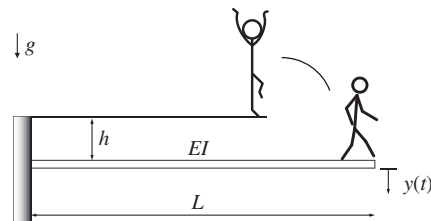

Figure P10.31 A diver impacting a diving board.
- 10-31.** At time $t = 0$ s, a diver of mass m jumping from a platform of height h (in meters) impacts a diving board with an initial velocity $v_o = \sqrt{2gh}$, as shown in Fig. P10.31.